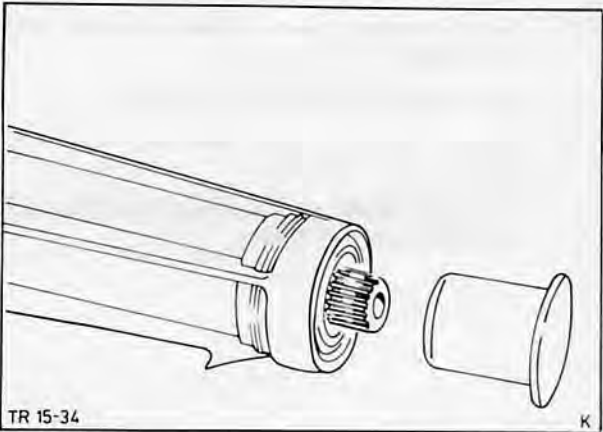

Fig. 140. Protective cap for gearbox mainshaft
- 3. Draw driveshaft out of gearbox extension housing and insert old driveshaft stub or suitable plastic cap in extension housing, Fig. 140.